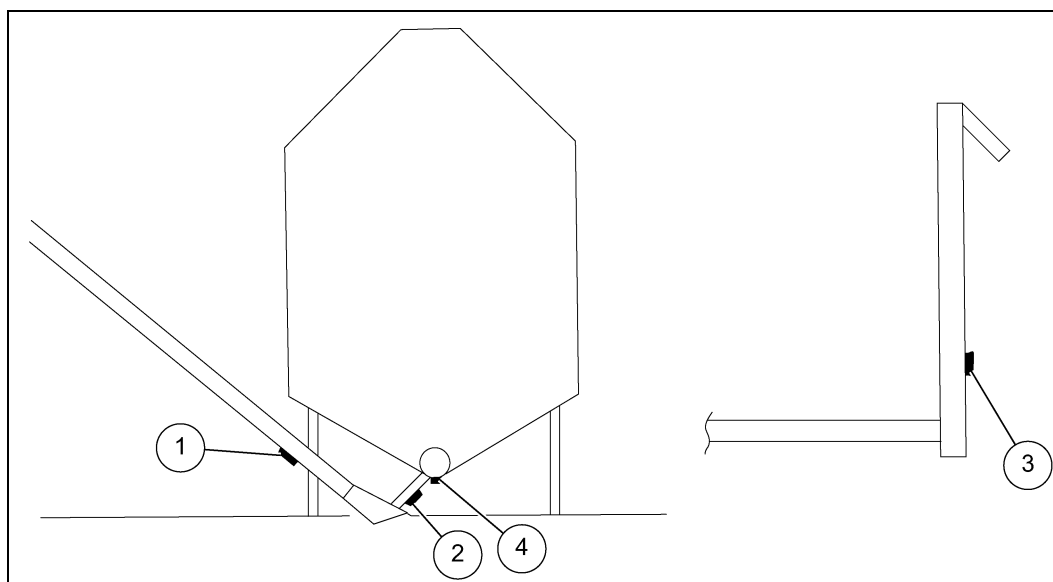

Figure 3A
5. Use sensor location as shown in Figure 3A on Page 12 as a guideline for installation.